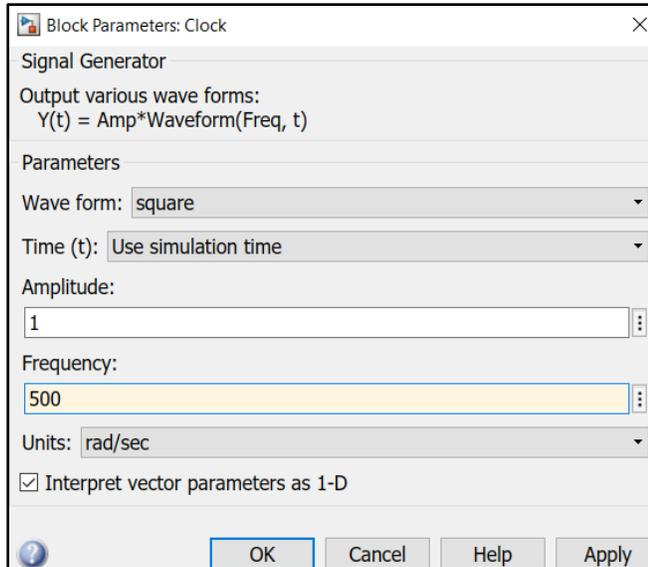

Figure 21. Change the parameters of signal generator (renamed as “Clock” here).
- b) Double-click on the “Clock” icon. A properties window should pop-up. Choose [square] under “Wave-form” and also input “500” for frequency (see Figure 21.) then click [OK].